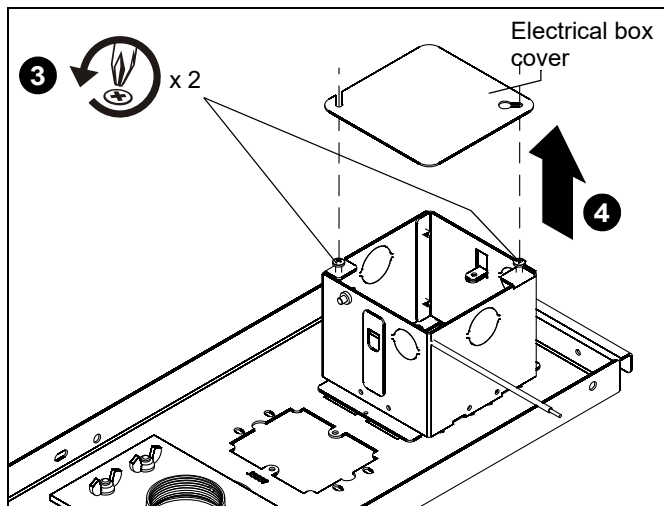

Figure 2
4. Remove electrical box cover. (See Figure 2)